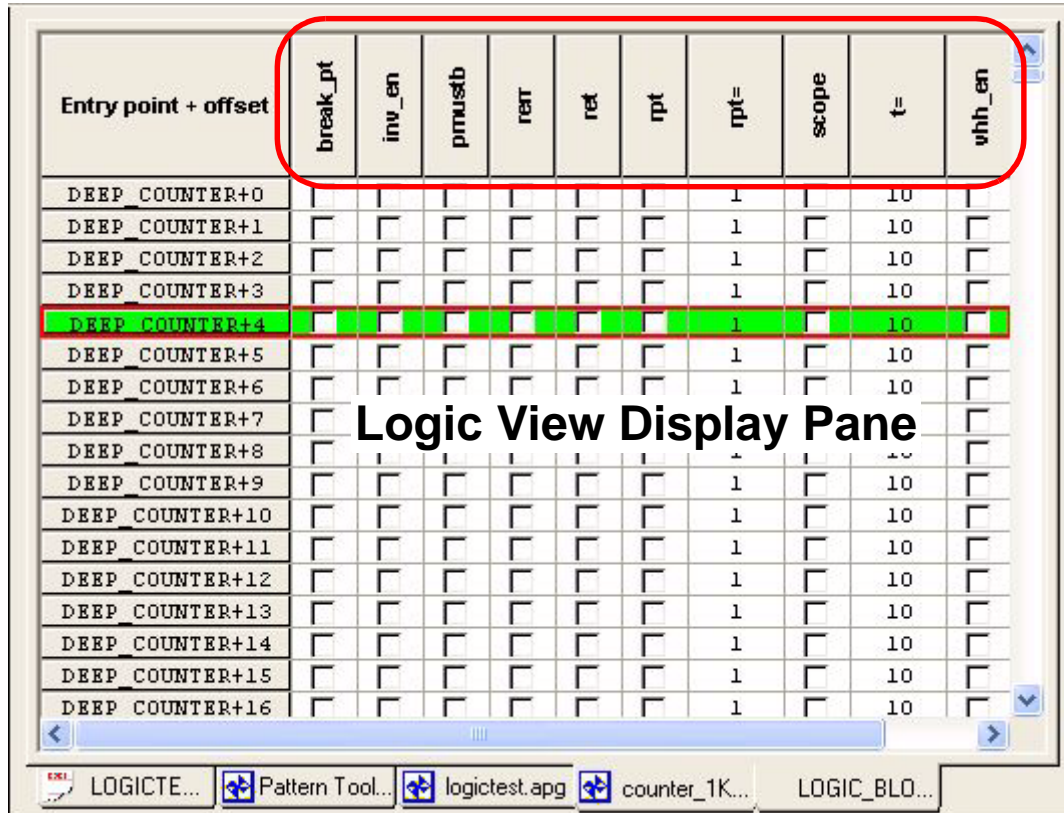

Figure 5-60. Logic View Display Grid
- 2 If the current vector is a logic vector, then the Display Logic View command can be selected in the pop-up menu to display the Logic View Display Pane (Figure 5-60). The failing vector displays with a red border.